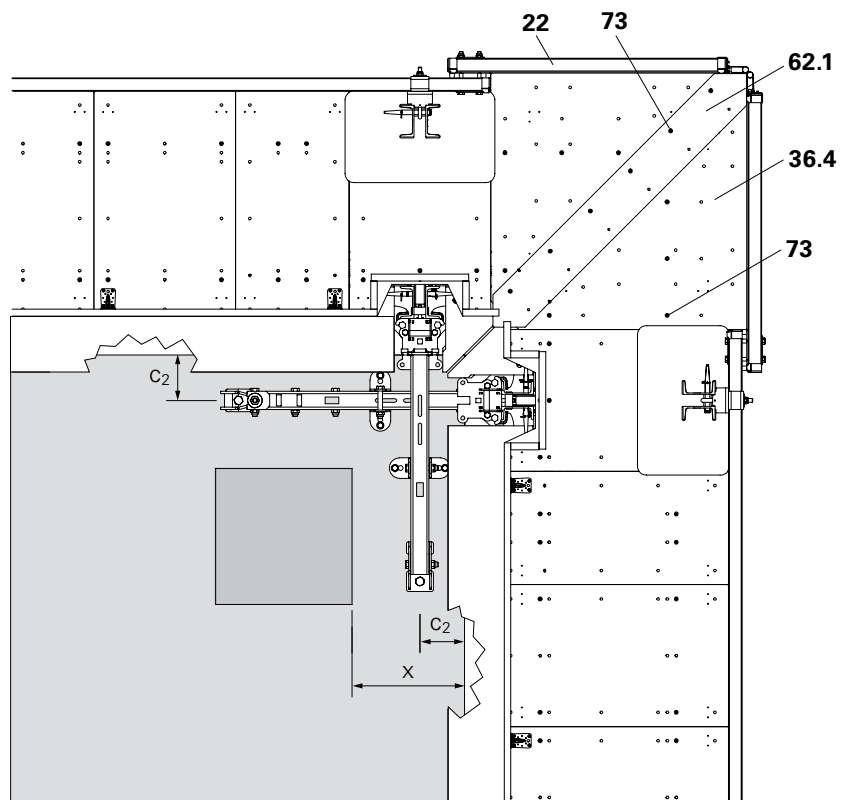

Fig. B3.03
For platforms, maintain a safety distance of min. 50 mm. Cover gap with Cover Strip LPS 20 x 158 (62.1). Fix Cover Strip on one side with Screw M10x25 (73). (Fig. B3.03)